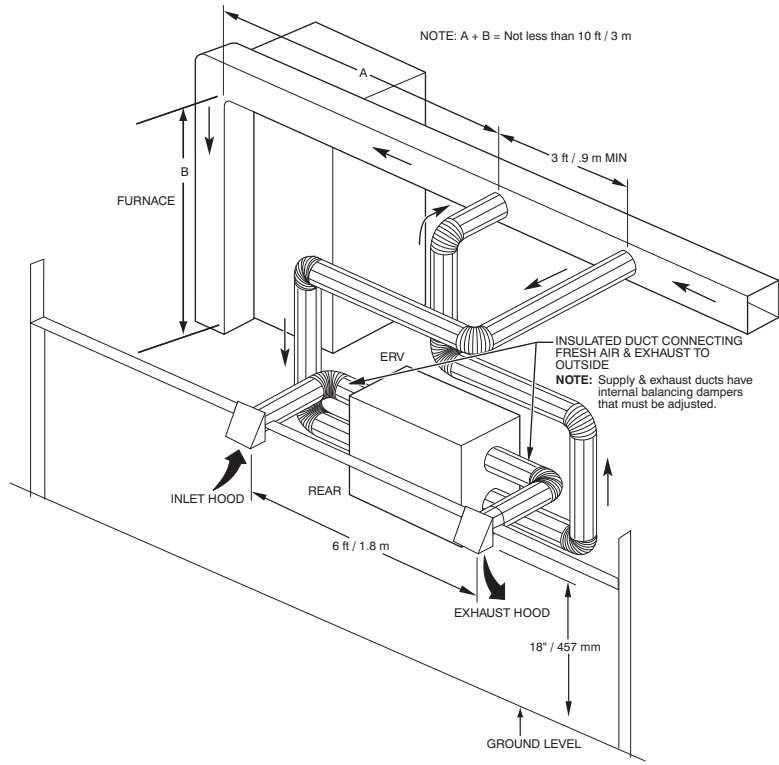

Fig. 9 - Exhaust Ventilation
Most HRV applications will be installed in conjunction with new or existing forced-air system. To operate properly, the fresh-air supply and stale-air return from HRV connect directly to return-air duct system. This is how the HRV distributes fresh air and removes stale air from inside of building (see Fig. 9). For these installations, furnace or fan coil blower must be interlocked and operate continuously whenever HRV is energized.
**NOTE:** The fresh air from HRV is introduced into return-air duct at a point no less than 10 ft (3m) upstream of furnace or fan coil. This connection should be direct (see Fig. 9). This is to allow incoming fresh-air to mix before entering indoor equipment.
Fresh-air intake and stale-air exhaust must be separated by at least 6 ft (1.8 m). Fresh-air intake must be positioned at least 10 ft. (3 m) from nearest dryer vent, furnace exhaust, driveway, gas meter, or oil fill pipe. Fresh-air intake must be positioned as far as possible from garbage containers and potential chemical fumes. When possible, it is advised to locate the intake and exhaust hoods on same side of house or building. The intake and exhaust hoods should never be located on interior corners or in dead air pockets (see Fig. 9). Both intake and exhaust hoods must be 18 in. (457 mm) from ground and at least 12 in. (305 mm) above anticipated snow level.